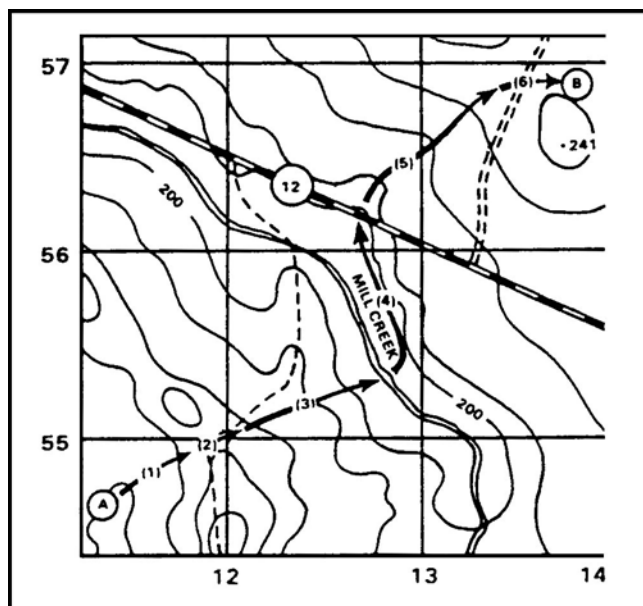

Figure 3. Route of travel.
- (2) Ease of movement. Always pick the easiest route that the tactical situation will allow. However, you achieve surprise by doing the unexpected. A difficult route increases your chance of getting lost. A difficult route may be noisy and may tire you out before you get to your objective.
- (3) Boundaries. It is almost impossible to travel in a straight line, with or without a compass. Pick an axis or corridor to travel along. Pick boundaries you will be able to spot or feel. Hard-top roads, streams, high grounds, and railroads all make good boundaries. If you start to wander too far off course, you will know it.
- d. You decide the route shown in Figure 3 offers you easy movement. You check your axis up the valley (1); across the ridge at the saddle (2); cross the stream, turning left and keep the stream on the left, high ground on the right (4); to the third valley (5); to the saddle, then on the objective (6).
- f. Referring to Figure 3, pick your checkpoints.
- (1) The saddle, you can use Hill 241 to line on up the right valley, which you will follow to:
- (2) The stream, which you will move along-side it until:
- (3) The bend in the stream, when you turn right to:
- (4) The road in the valley (the ridge crossing on the road on the 12 grid line will serve as a limiting feature), then up to:
- (5) The far saddle, and right to your objective (B).